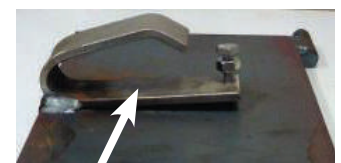

Fig. 16
9. Apply high temp anti-seize lubricant to the under side of the bypass hook (**Fig. 16**) and then reinstall the bypass door by following the previous steps in reverse order.